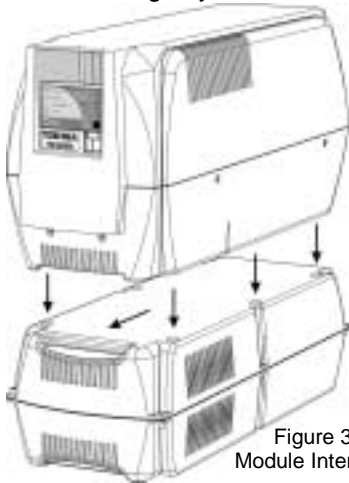

Figure 3
**Step 2:** Slide the upper unit forward. This will cause the two units to lock together. In order to unlock the units, lift up on the top module, and slide it back. This will release the interlock (figure 3).